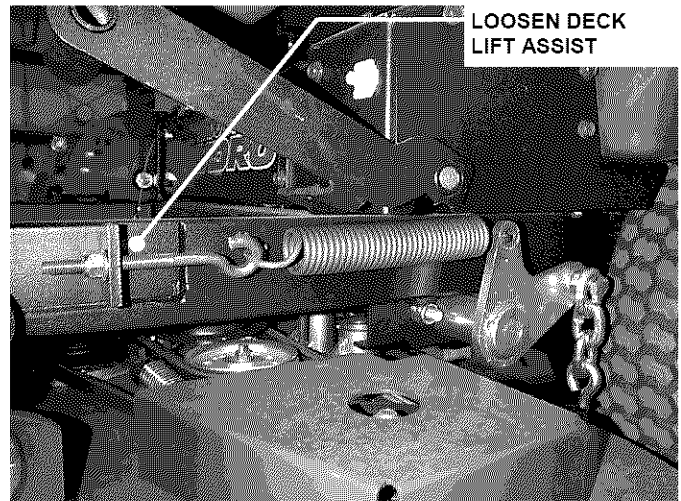

FIGURE 4.9
1. Move deck lift lever and set the mower deck to the highest cutting position. See Figure 4.9.
2. **IMPORTANT - STORED ENERGY.** Relieve tension on deck lift assist spring by backing off nut on eyebolt. Failure to relieve tension could result in personal injury. See Figure 4.9.
4. Move deck lift lever and set the mower deck to a lower cutting position until deck rests on wooden blocks. Position the deck to where there is no tension on the deck hanger chains. See Figure 4.9.